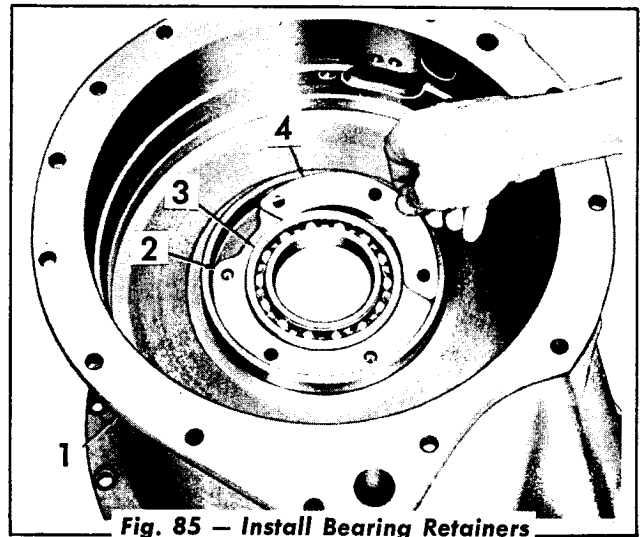

Fig. 85 — Install Bearing Retainers
1. Position the transmission housing (Fig. 85), rear end up, on wooden blocks. If the hub and the bearings were removed, press the hub and the bearing toward the rear of the housing aligning the capscrew holes. Install the two bearing retainers.